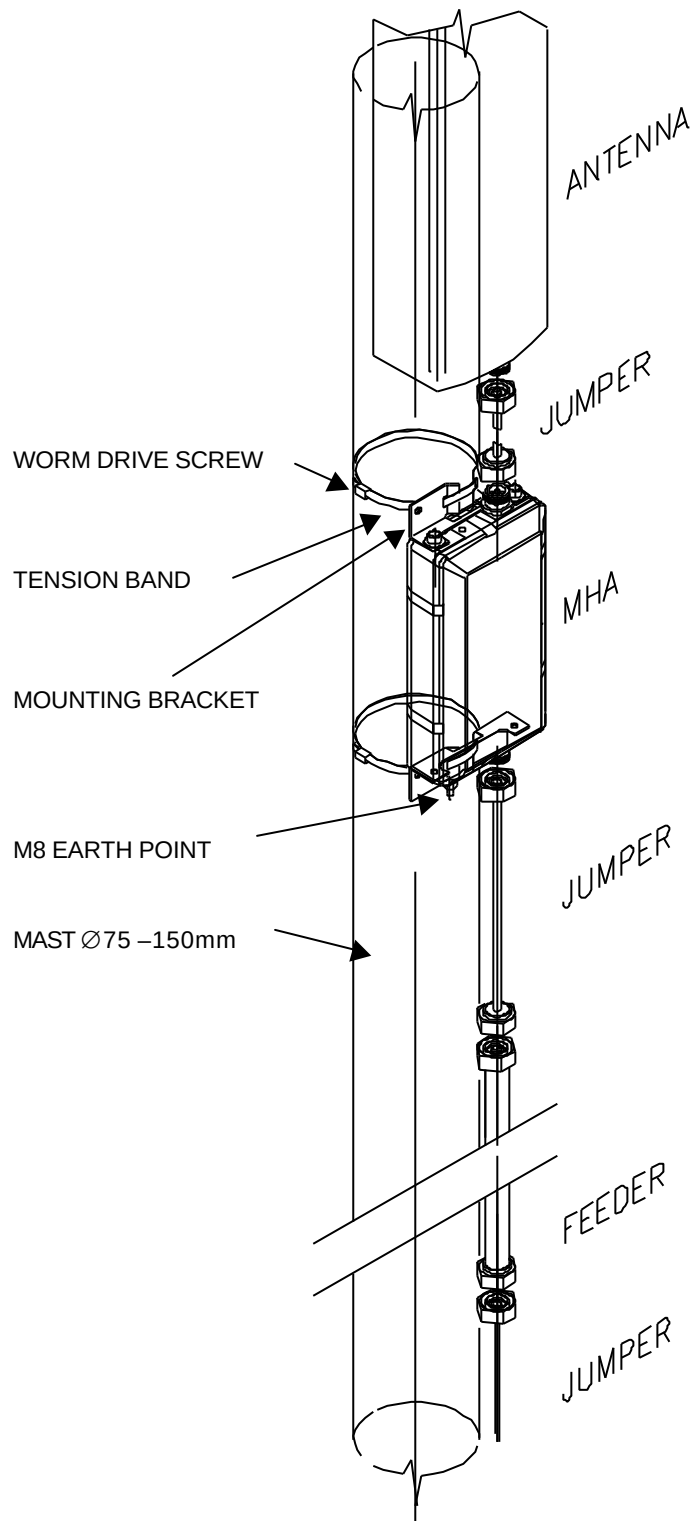

Figure 14 Installation of the MHA using a Single-MHA Mounting Bracket kit.
- c) The REMEC-Airtech G3 MHA is supplied with the mounting brackets. Fit the single-MHA or dual-MHA mounting, as necessary, if not already fitted. The MHA/MHAs may be attached to an antenna pole by the use of the two adjustable strap assemblies which should be fitted to the upper and lower mounting brackets. Thread each of the straps through the two slots provided in the mounting brackets. Wrap the straps around the mounting pole and locate into the worm drive screw assembly as detailed in Figure 14. Stacked Dual MHAs are also similarly mounted on the pole. The two screw assemblies should then be adjusted using a 10 mm open ended spanner or socket assembly, ensuring that the torque applied to the screw does not exceed 2 Nm.